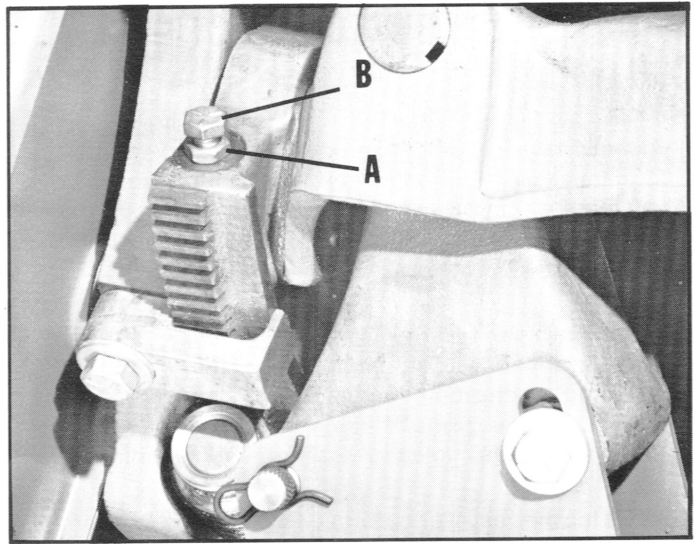

Fig. 23
2. Place a steel square on the table and check to see if the blade is at 90 degrees to the table. If an adjustment is necessary, loosen locknut (A) Fig. 23, and turn adjusting screw (B) against the lug on the front trunnion when the blade is at 90 degrees to the table. Then tighten locknut (A).